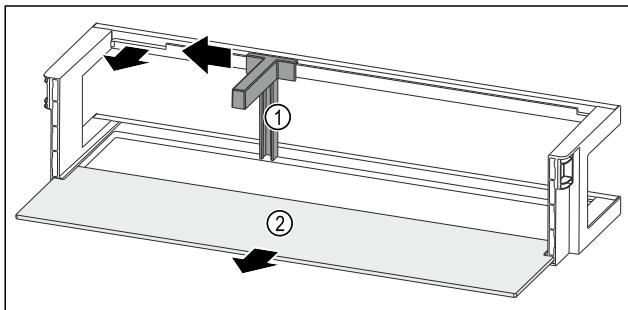

Fig. 93 Door rack with bottle holder and shelf
- Slide the bottle holder Fig. 93 (1) to the side as far as the recess.
- Remove the bottle holder Fig. 93 (1).
- Remove the shelf Fig. 93 (2).